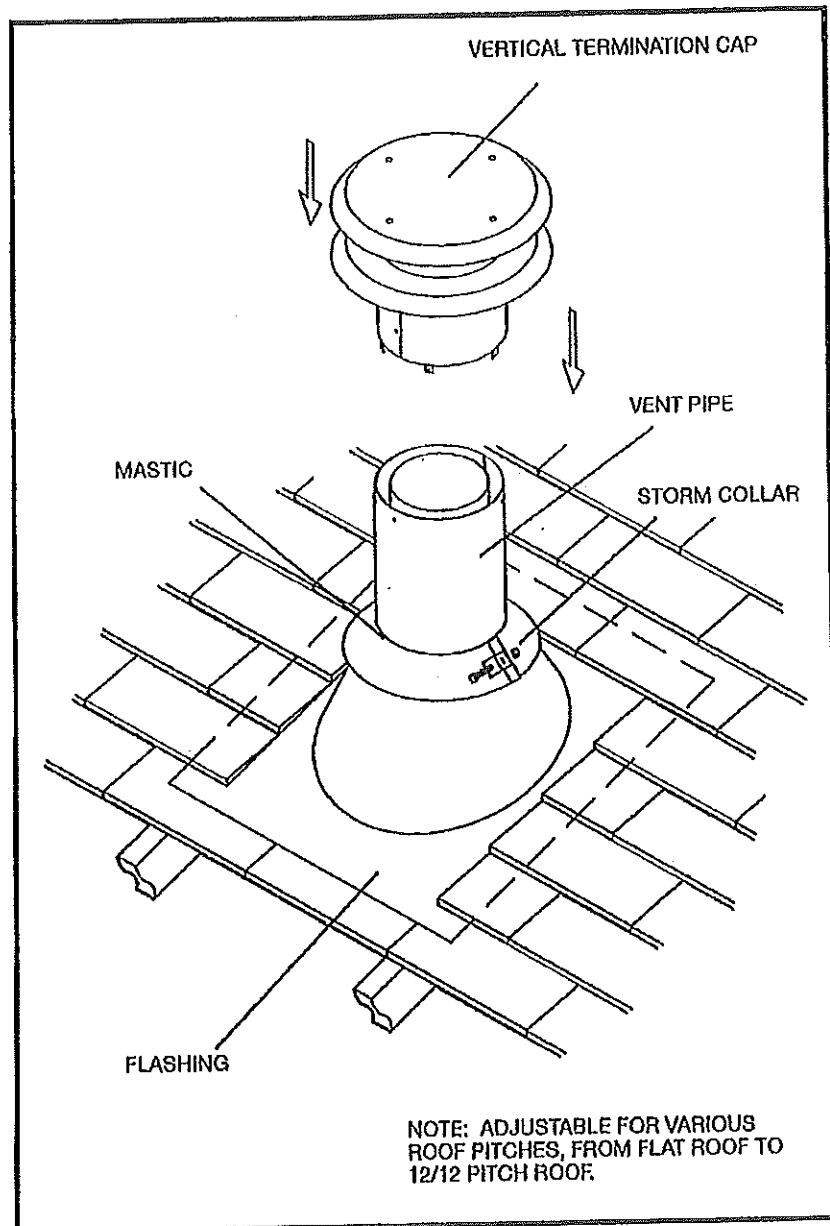

Figure 37: Roof vent terminal.
1. Place the roof flashing over top of the vent pipe and seal it to the roof using the methods and materials appropriate for the type of roof on the building. Shingle roof example shown (Figure 37).